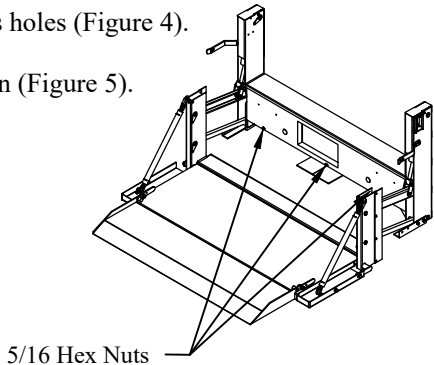

Figure 3: Assembled Liftgate
- 3. **Remove** the mainframe box cover by removing the three $\frac{5}{16}$ " hex nuts with a $\frac{1}{2}$ " wrench or socket (Figure 3).